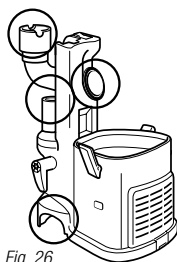

Fig. 26
- Remove the dust cup and extension wand and separate the detachable canister from the motorized floor brush. Look in all 4 openings for any blockages. **(Fig. 26)**